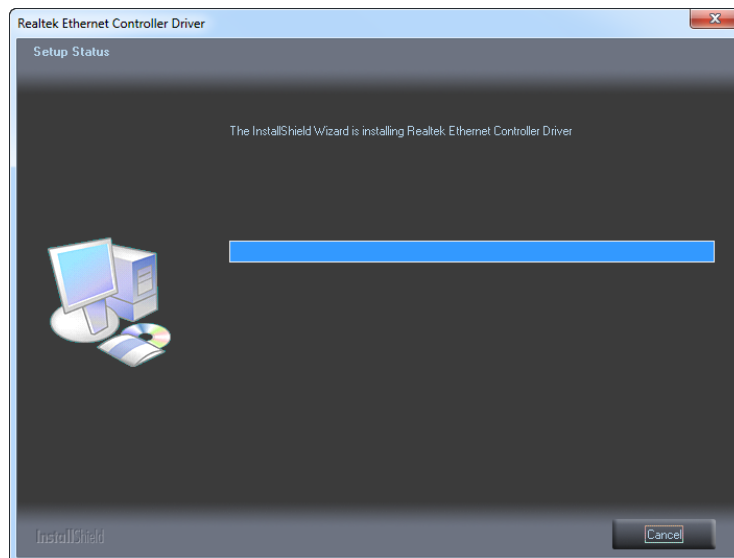

Figure 8-20: LAN Driver Setup Status Screen
Step 9: The **Setup Status** screen in **Figure 8-20** appears.